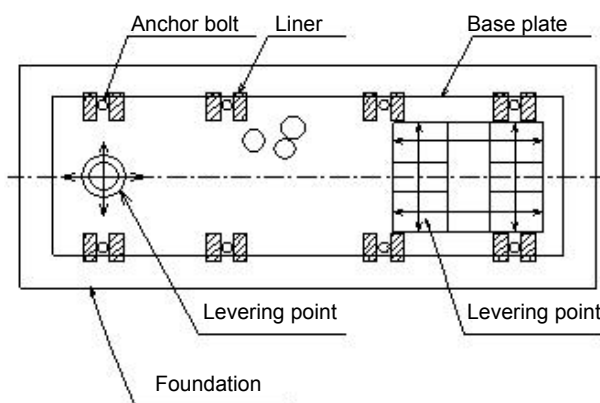
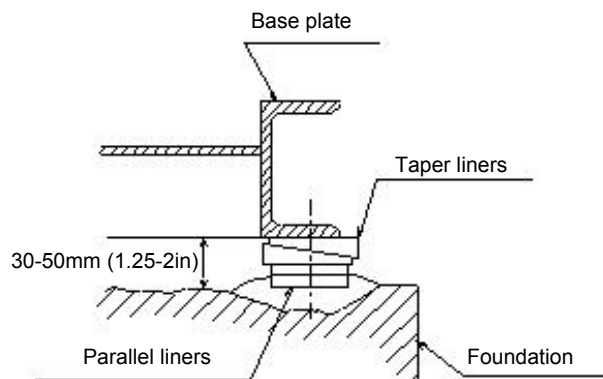
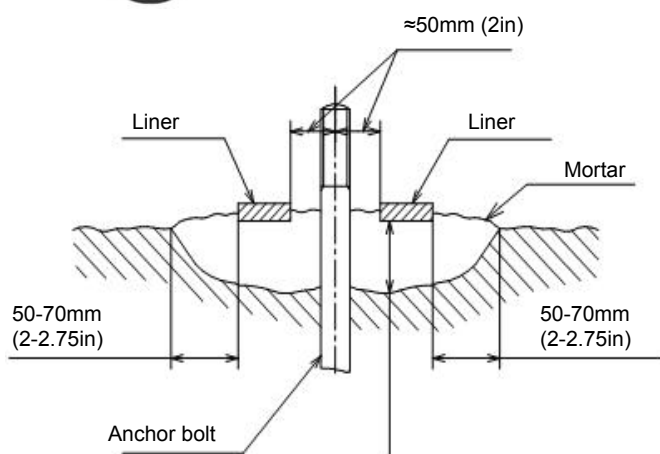

Fig. 4-1
Fig. 4-2
Fig. 4-3
- Construct mortar beds in order to install the parallel liners as shown on Fig. 4-3. For the position of parallel liners see Fig. 4-1 and Fig. 4-2.
- Install the parallel liners on the mortar beds, close to the anchor bolt holes as shown on Fig. 4-3. And adjust the level of parallel liners before the mortar has solidified.